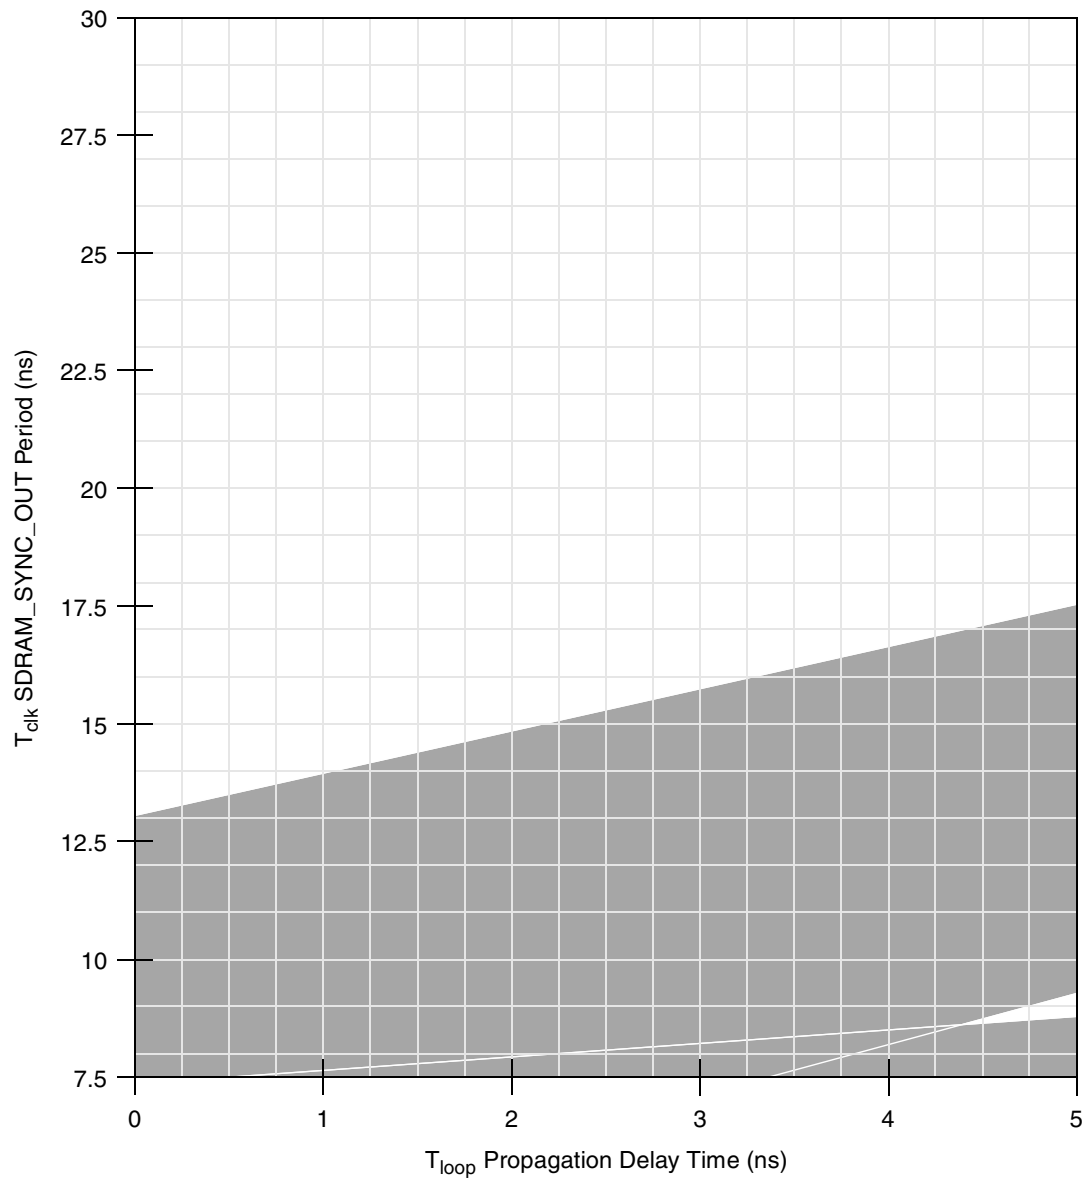
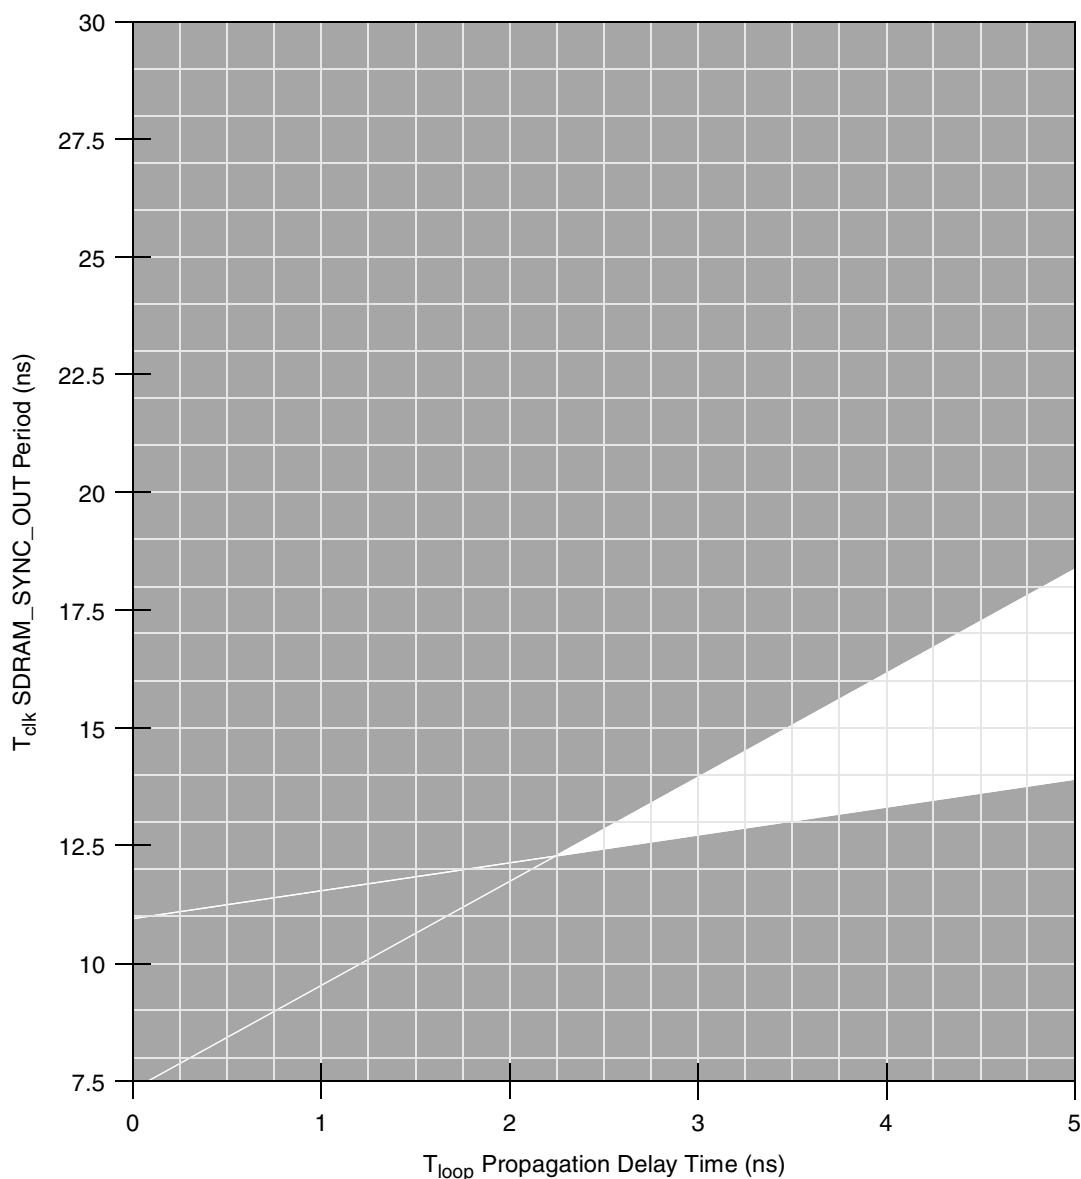

Figure 7. DLL Locking Range Loop Delay versus Frequency of Operation for DLL_Extend=0 and Normal Tap Delay
Figure 10. DLL Locking Range Loop Delay versus Frequency of Operation for DLL_Extend=1 and Max Tap Delay
6. DLL_EXTEND is bit 7 of the PMC2 register <72>. N is a non-zero integer (see Figure 7 through Figure 10). T_{clk} is the period of one SDRAM_SYNC_OUT clock cycle in ns. T_{loop} is the propagation delay of the DLL synchronization feedback loop (PC board runner) from SDRAM_SYNC_OUT to SDRAM_SYNC_IN in ns; 6.25 inches of loop length (unloaded PC board runner) corresponds to approximately 1 ns of delay. For details about how Figure 7 through Figure 10 may be used, refer to the Freescale application note AN2164, *MPC8245/MPC8241 Memory Clock Design Guidelines*, for details on MPC8241 memory clock design.
Figure 6 shows the PCI_SYNC_IN input clock timing diagram, and Figure 7 through Figure 10 show the DLL locking range loop delay versus frequency of operation.